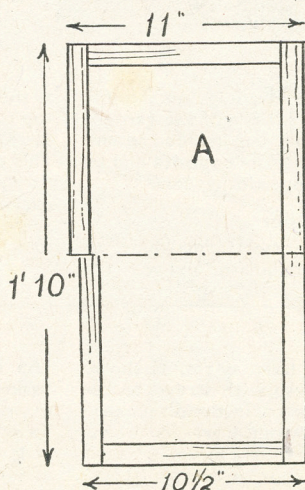

Fig. 1—Side frames and bottom, with joint detail
Details of the sides and bottom are given in Fig. 1 and diagram. Fig. 2 shows the general build up of the article. First make up a couple of light wood frames to dimensions given in Fig 1 (A). These are constructed from  $\frac{1}{2}$  in. by 1 in. wood strips and joined together at the corners with the simple halved joint, shown at (C), which every reader is well acquainted with, we think.
As a rule these have a curved structure with three bars, two each side and one in the centre. Remove the bar from what will be the back and leave the centre and front one. Shoes will then rest with heels on middle rail and soles on outer rail (see Fig. 1). If you want more space then add another set of bars between the existing sets. Give a coat of stain and the fitment can stand in any odd corner.